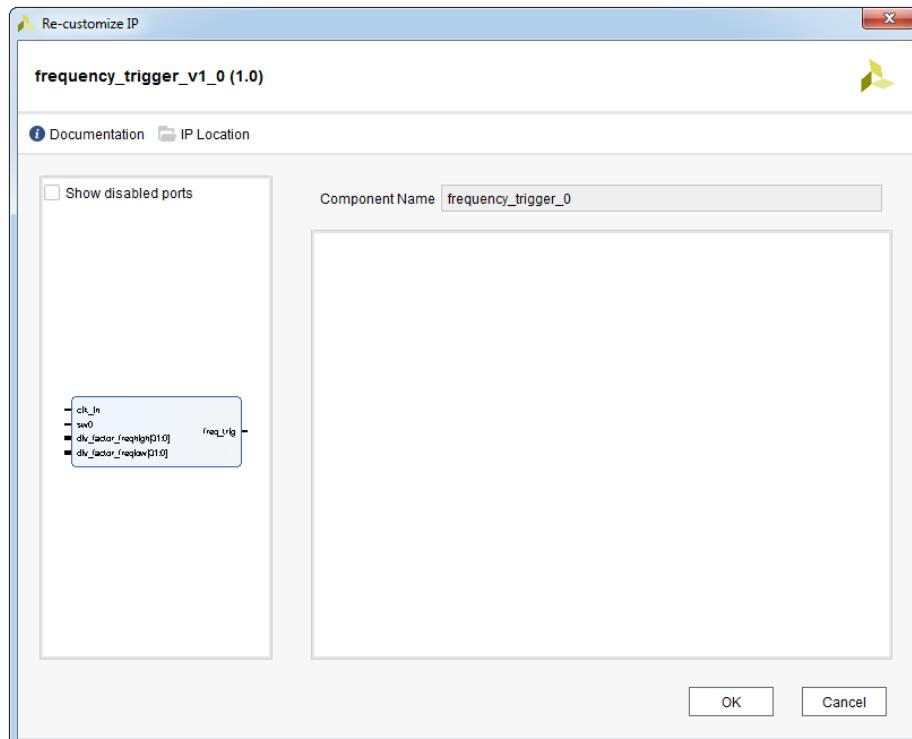

Figure 12.47: frequency_trigger_v1_0 re-customization dialog box
16. Double-click on the each of the IP cores to re-customize it. Re-customize IPs on the same way as it is done in the previous **Sub-chapter 13.1 IP Packager** (steps: **40**, **43**, **47** and **51**), see Figures 12.47, 12.48, 12.49 and 12.50.